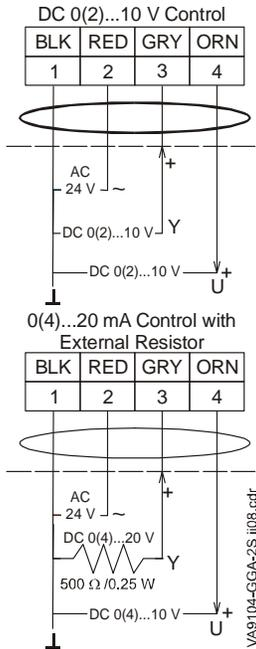

Figure 11: VA-9104-GGA-2S Control Wiring Diagram
The VA9104-GGA Series Electric Non-Spring Return valve actuators require AC 24 V power and a DC 0(2) to 10 V or 0(4) to 20 mA controller input signal. These electric actuators include an integrated 120 in. (3.05 m) long cable; see Figure 11 for proper wiring.